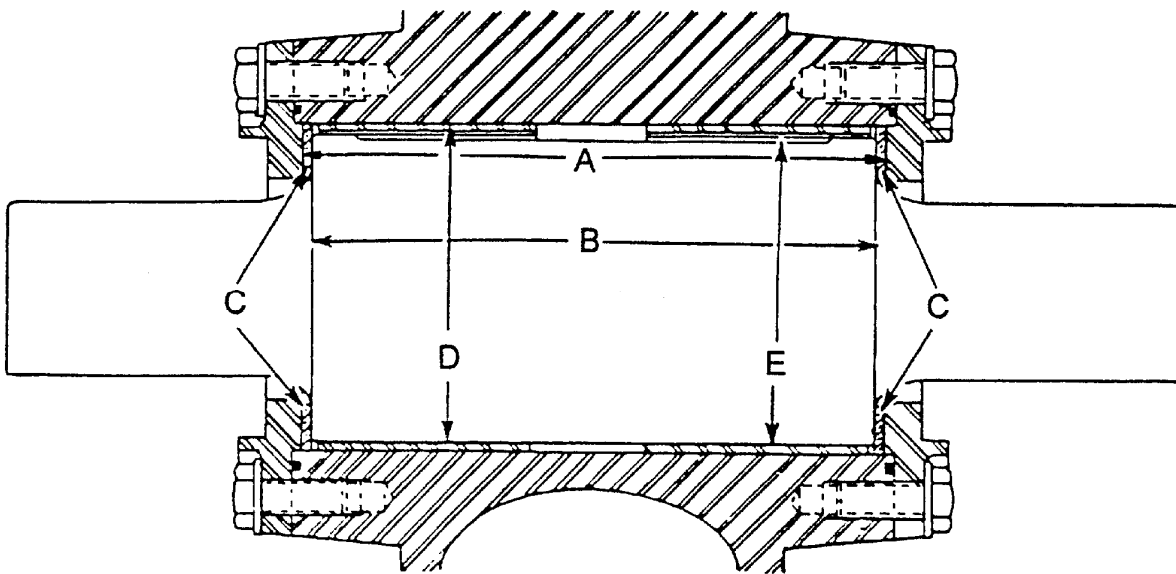
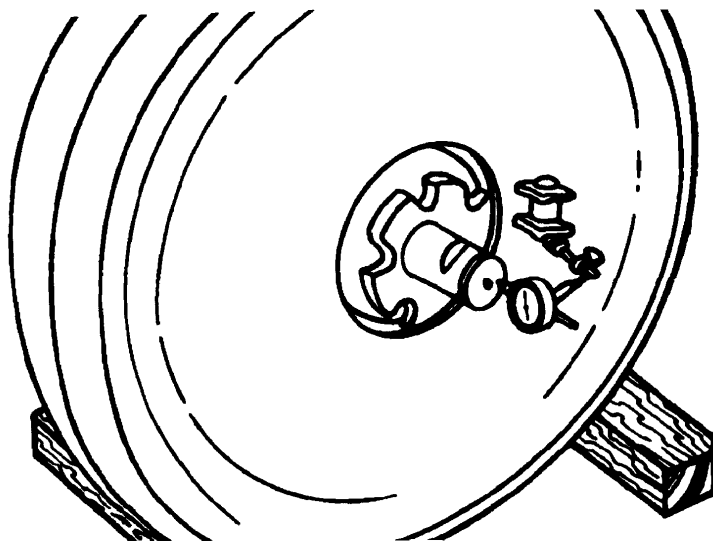

Fig. 14.14. Front Idler Bushing Clearances
Fig. 14.16. Idler Shaft End Clearance
4. Check the clearance limits given in Fig. 14.14.
- Check that front idler end clearance is within tolerance given in Fig. 14.14. From side of roller dial indicator is to be mounted, push roller shaft into housing to be sure it is bottomed against washer. Place indicator base on idler housing with indicator pointer resting against end of the shaft (Fig. 14.16). Set the indicator at zero. Push shaft toward indicator until it bottoms and take a reading. If reading obtained is below specification, check measured surfaces (A, B, C, Fig. 14.14) for squareness. If above specifications, check parts for excessive wear.